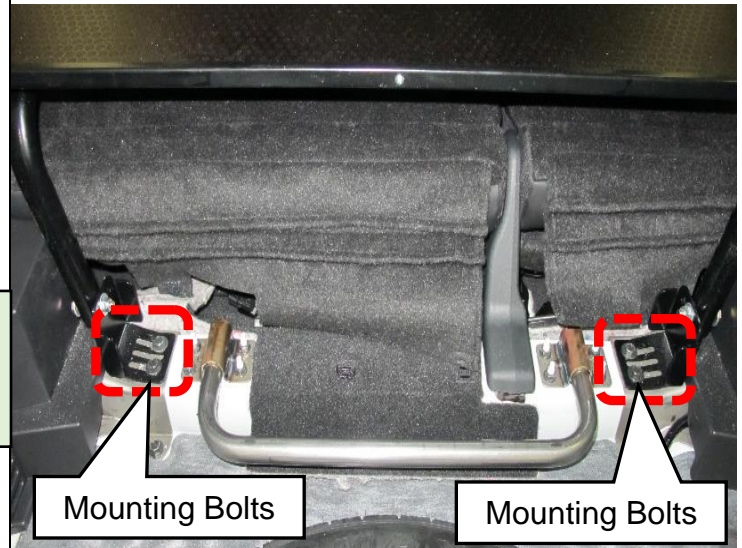

Figure 12
11. Remove the (4) partition rear support mounting bolts (Figure 12).